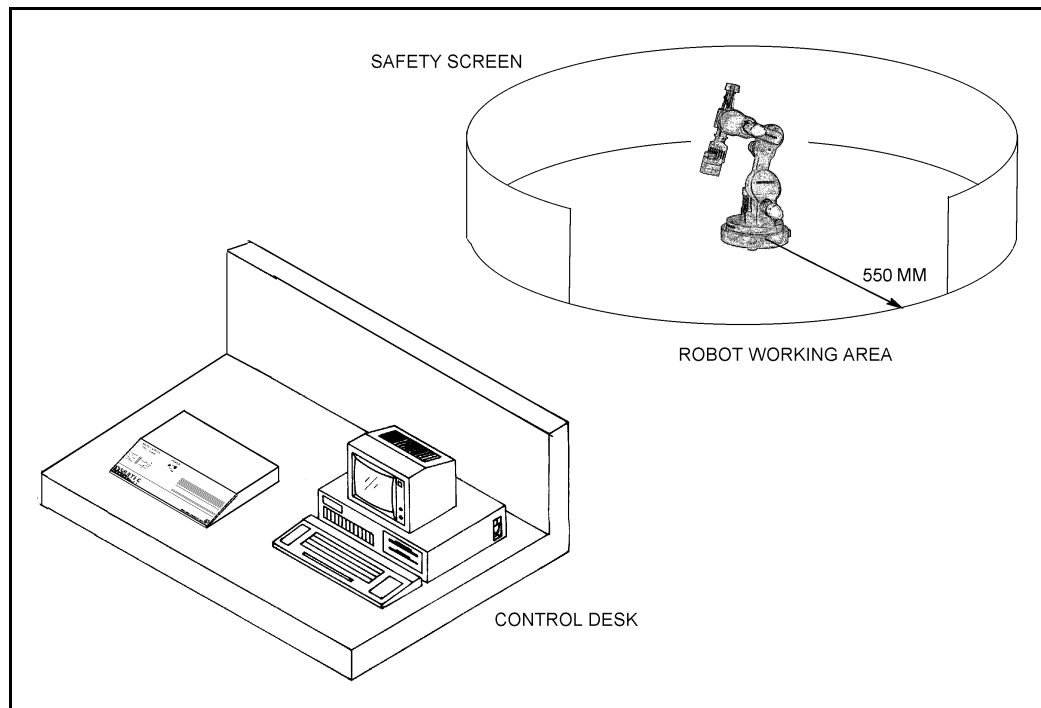

Figure 3-1: SCORTEC-ER I Installation
1. Be sure you have ample space to set up the robotic system, as shown in Figure 3-1.